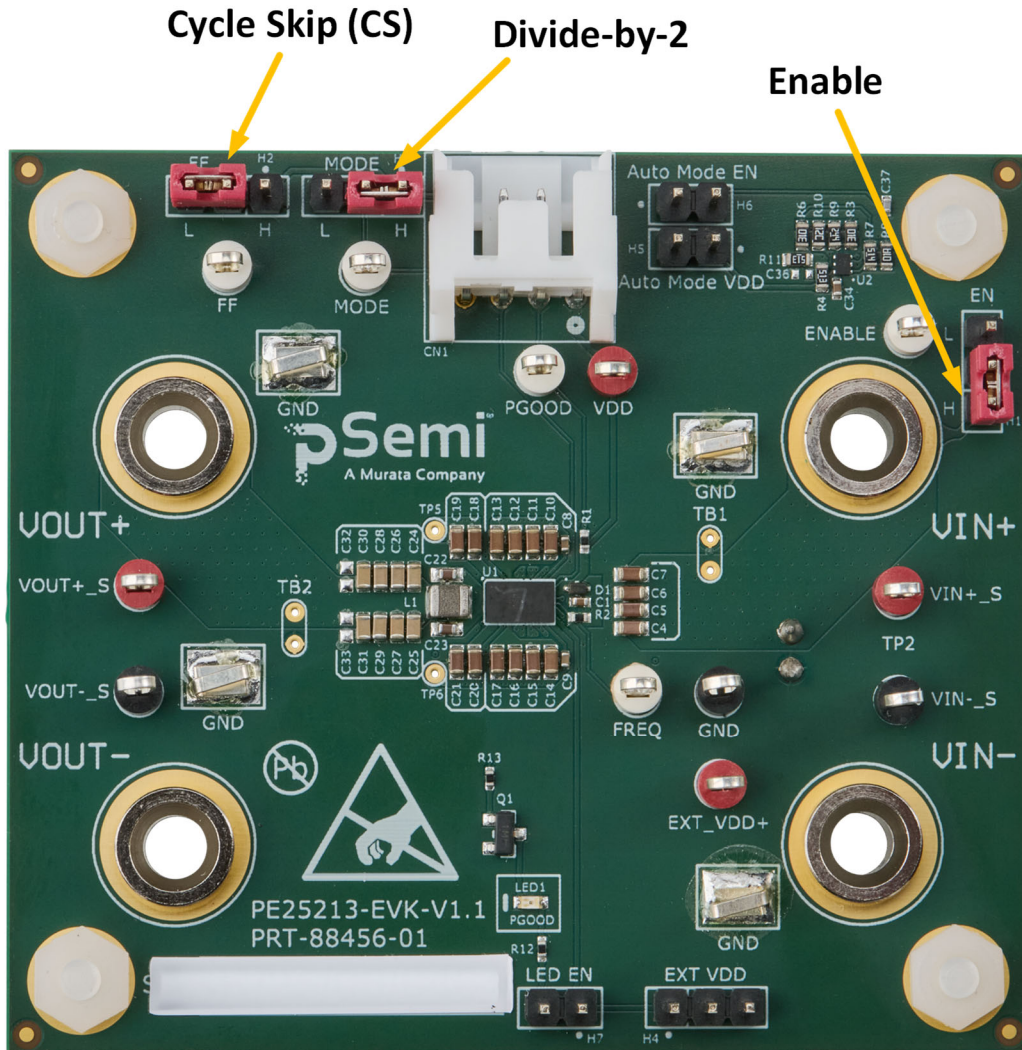

Figure 6. Jumper Configuration
1. Before you power-up the EVK, set the H1 and H2 PCB headers by fitting the jumper sockets. In Figure 6, H1 is in the enable position and H2 is in cycle-skip mode.
2. H3 sets the EVK division ratio. In Figure 6, H3 is set to divide-by-2 mode, and all the other extra functions are NOT implemented. If the H3 header is left unused, the EVK powers up in divide-by-3 mode by default. Do not leave H3 without a jumper in the HIGH or LOW position.